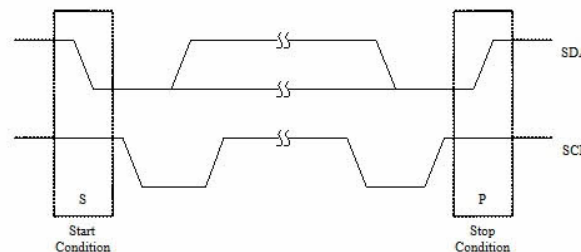

Figure 4.1 Start and Stop conditions
- Start and stop condition : A high to low transition of the SDA line while SCA is high defines a start condition. A low to high transition of the SDA line while SCA is high defines a stop condition. Please refer to Figure 4.1.